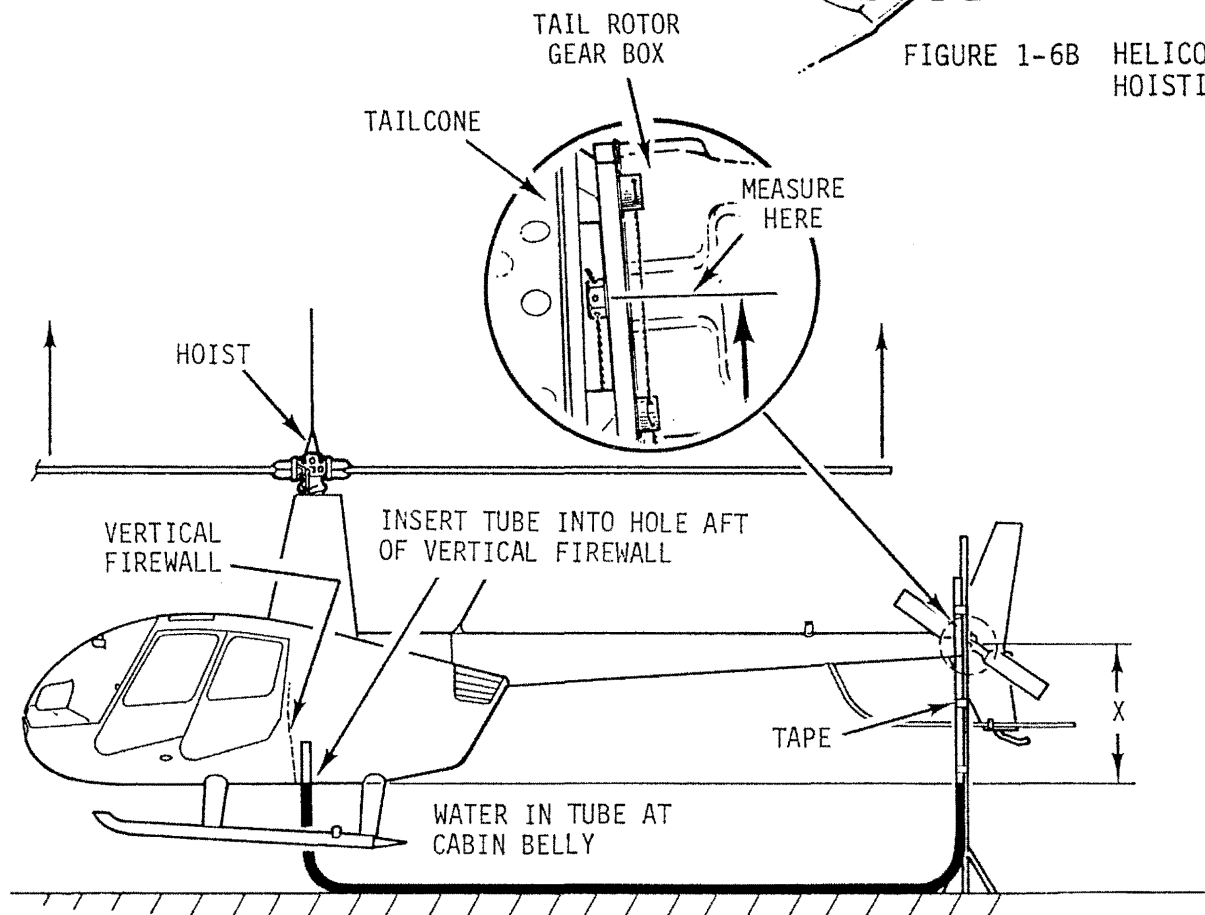

FIGURE 1-7
9. With aircraft hanging freely and steadily, use a water level and measure difference in vertical height between centerline of tail rotor gearbox and cabin belly at vertical firewall. Refer to Figure 1-7.